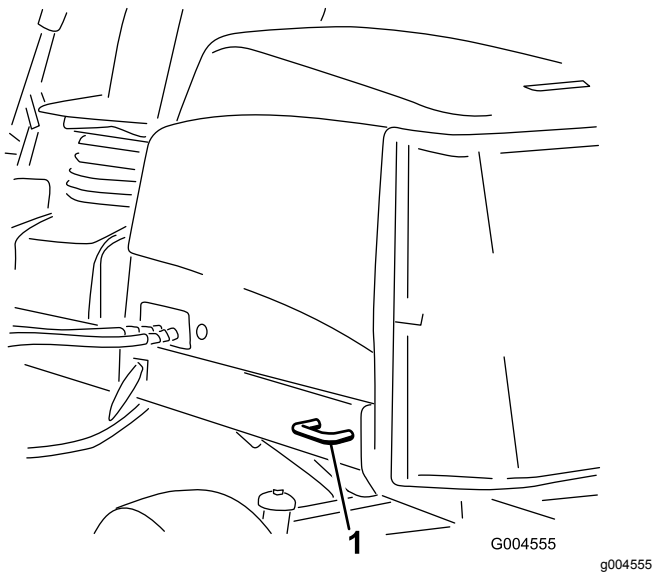

Figure 40
- Rear—each side of the machine on the rear frame (Figure 40).